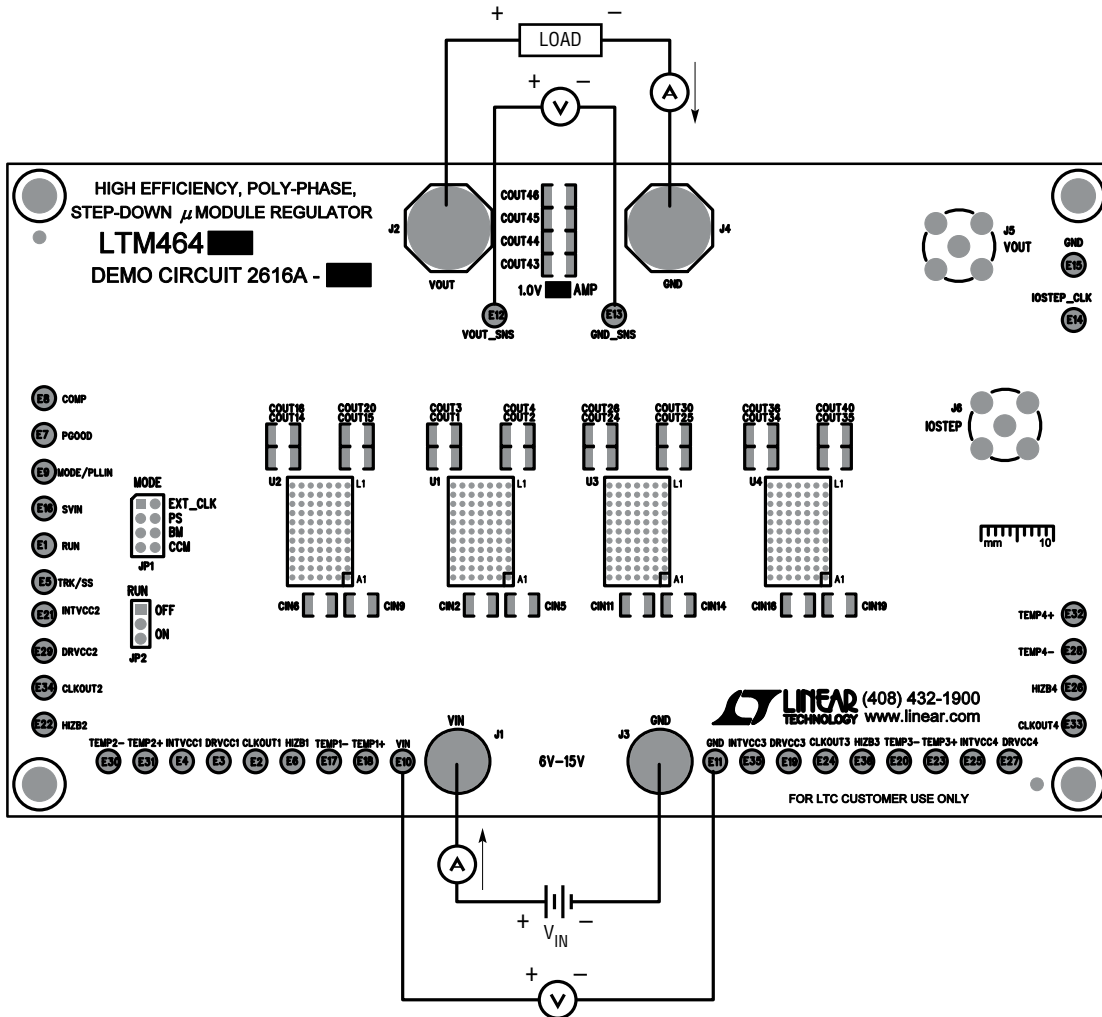

Figure 1. Measurement Setup of DC2616A-D
Demonstration circuit DC2616A-D is an easy way to evaluate the performance of polyphase operation of the LTM4647EY. Due to the high input/output current, the user should select the proper input supply/load/cable which can sustain the full load operation. Please refer to Figure 1 for proper measurement equipment setup and follow the procedure below:
2. With power off, connect the input power supply, load and meters as shown in Figure 1. Preset the load to 0A and V_{IN} supply to 12V.